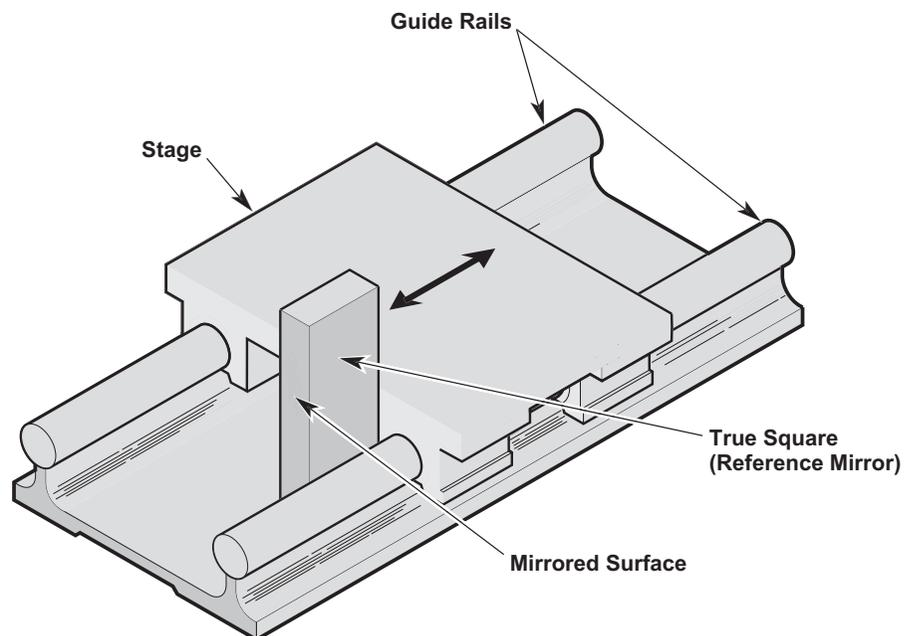

Figure 29 Using reference surfaces to align mirror
- Locating the mirror reference surfaces against fixed reference surfaces on the machine's positioning system (e.g., ways, rails, guides). (See Figure 29.)